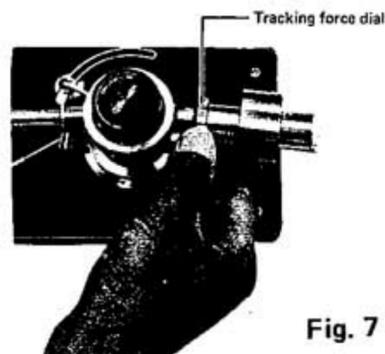

Fig. 7
2) Tracking force adjustment (See Fig. 7.)